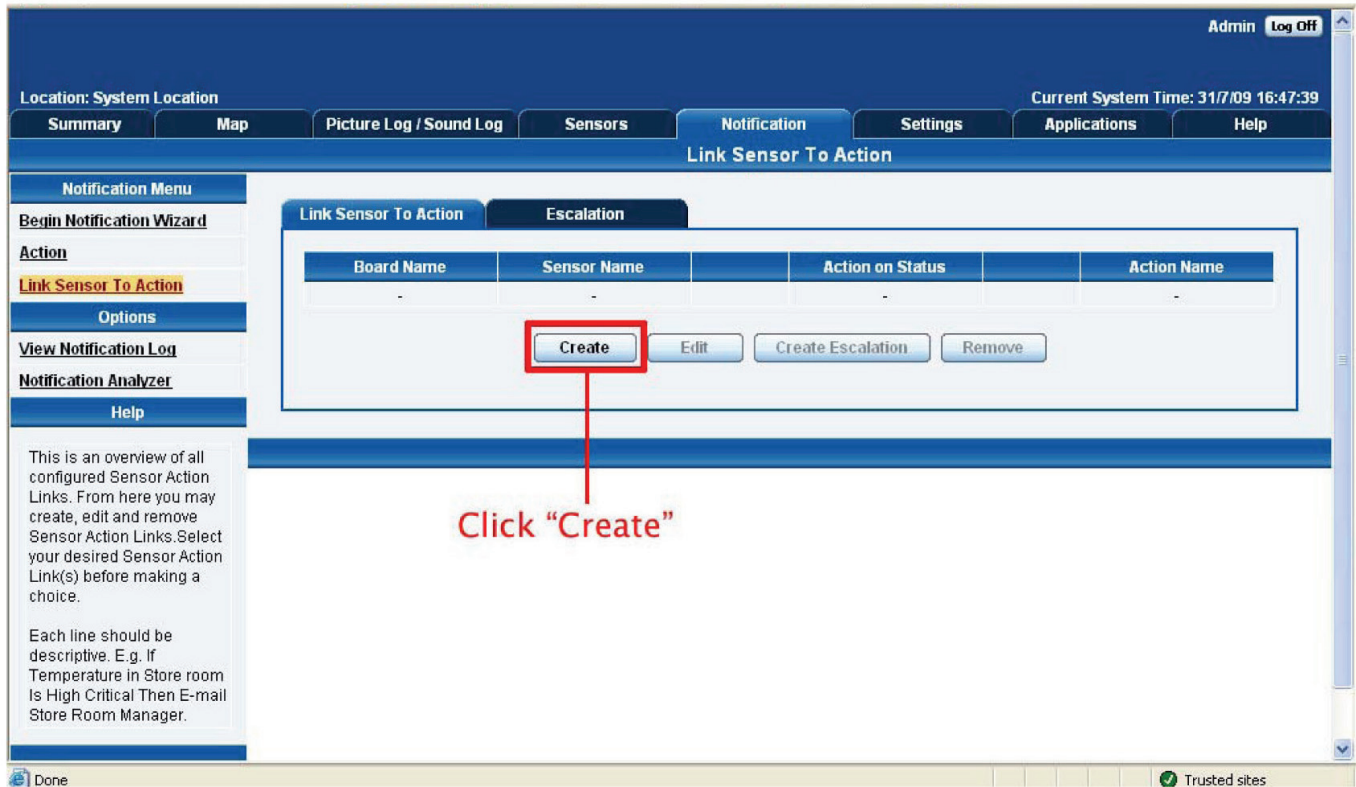

Figure 4-7. Notification tab.
12. Once we have created the parameters for the SNMP trap, we need to make it active. To do this, go back to the "Notification" tab. It should look like the screen shown in Figure 4-7.